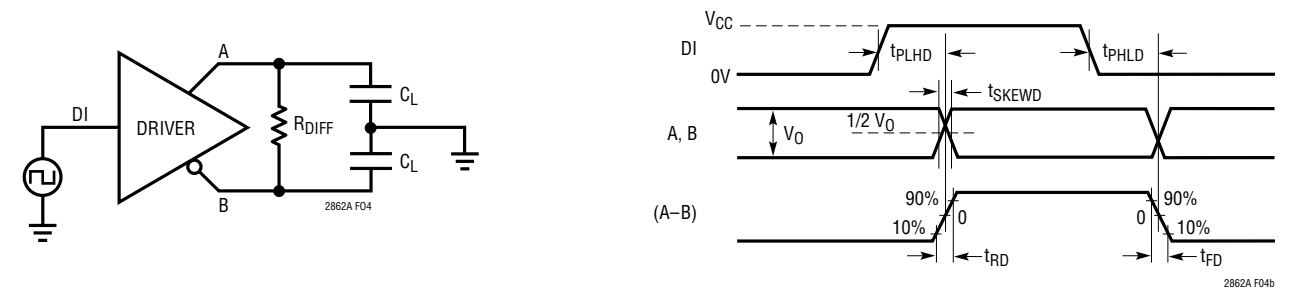

Figure 4. Driver Timing Measurement
- IEC 61000-4-2 Edition 2.0 2008-12 ESD Level 4: ±8kV contact (A or B to GND, direct discharge to bus pins with transceiver and protection circuit mounted on a test card with a low impedance ground discharge path from board GND to ESD gun return lead, per Figure 4 of the standard)
- IEC 61000-4-2 ESD Level 4: $\pm 30kV$ contact, $\pm 30kV$ air (line to GND, direct discharge to bus pins with transceiver and protection circuit mounted on a ground referenced test card per Figure 4 of the standard)